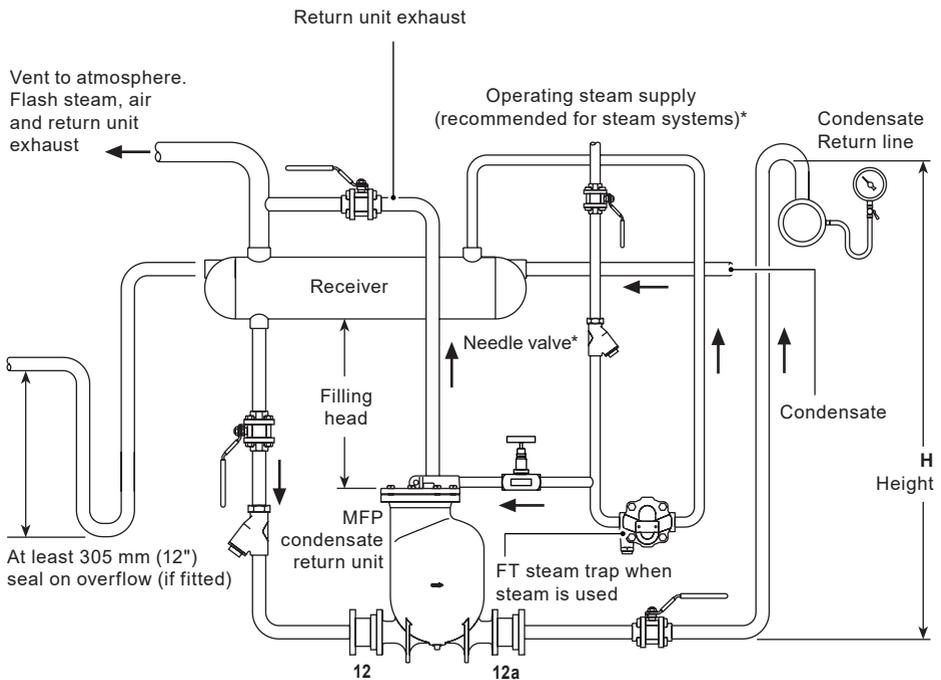
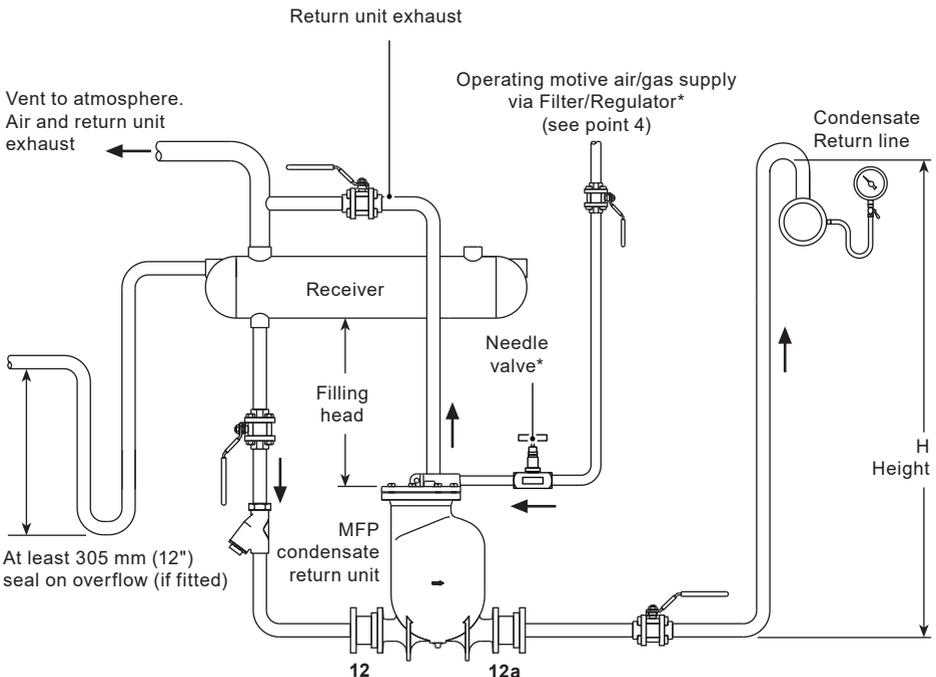

Fig. 4
Fig. 5
1. Install the return unit below the equipment to be drained with the exhaust connection vertically upwards. Return unit should be installed with the recommended filling head (the vertical distance between the top of the return unit and the bottom of the reservoir/receiver), see Section 3.2 and Fig. 5. For other filling head variations, refer to separate capacity chart.
2. To prevent equipment flooding during the return unit discharge stroke, a vented receiver or reservoir pipe should be installed in a horizontal plane ahead of the return unit as shown in Fig. 4. For proper receiver/reservoir sizing, refer to Tables 1 and 2 on pages 20 and 21. All inlet line fittings must be full bore.
3. Connect the check valves (12) and (12a) to the return unit making sure that the flow through the valves is in the correct direction. For best performance, horizontal piping runs immediately ahead of the inlet check valve and after the discharge check valve should be kept to a minimum. Connect the discharge to the return main or other return point. Torque tighten inlet and outlet flange bolts to 76 - 84 N m (56 - 62 lbf ft).
4. Connect the operating medium (steam, air or gas) supply to the motive supply inlet in the cover (see Fig. 4 and 5). Steam motive supply should have: A strainer, needle valve (to optimise the motive supply pressure during commissioning) and a steam trap (discharging to the receiver or reservoir piping) installed upstream of the supply inlet. Compressed air motive supply should have: A filter regulator and needle valve installed upstream of the supply inlet.
Sufficient reservoir volume is needed above the filling head level to accept the condensate reaching return unit during the discharge stroke. The receiver can be a length of pipe of large diameter or a tank. If desired, receiver overflow piping can be installed as shown in Fig.4 and Fig. 5 in Section 3 and piped to a suitable drain. The piping must form a U-type water seal at least 305 mm (12") deep immediately after the receiver.
4. Connect the operating medium (steam only) supply to the motive supply inlet in the cover (see Fig. 4). Motive steam supply should have a strainer, needle valve (to optimise the motive supply pressure during commissioning) and a steam trap (discharging to the receiver or reservoir piping) installed upstream of the supply inlet.'